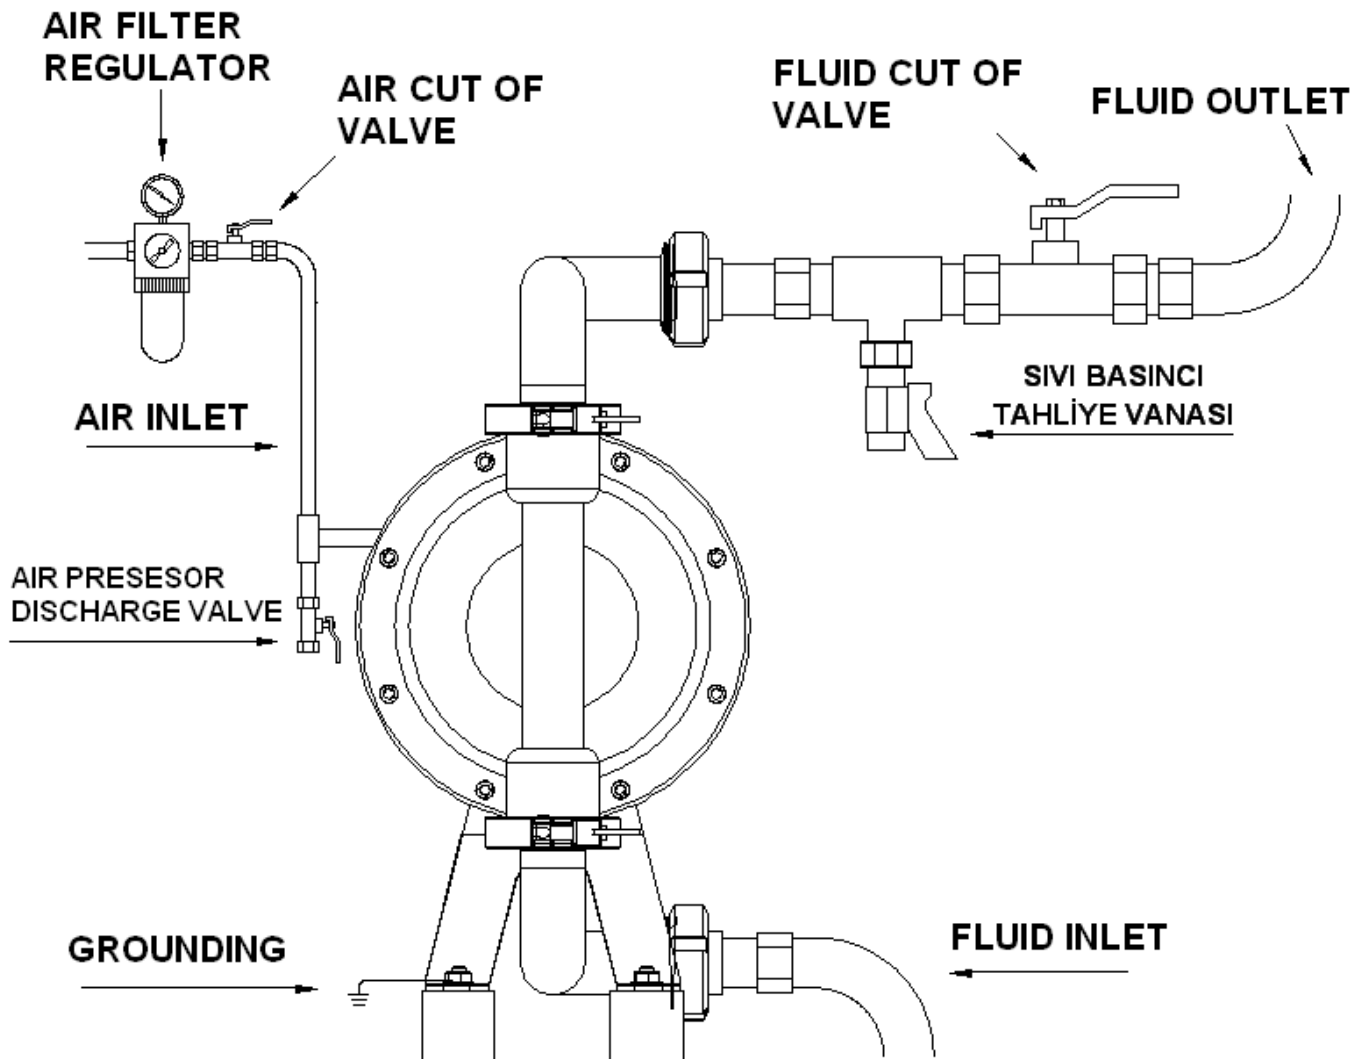

Figure 7- Typical installation scheme
A typical connection scheme of diaphragm pump is shown at Figure 7. Refer to your RAN™ Pump distributor for detailed information.
A bleed-type master air valve is required in your system to relieve air trapped between this valve and the pump. Trapped air can cause the pump to cycle unexpectedly, which could result in serious injury, including splashing in the eyes or on the skin, injury from moving parts, or contamination from hazardous fluids. See Fig. 7.
- 1-Refer to the Figure 7 for the connection scheme. Fix these accessories to the wall or to a bracket. The air line feeding the accessories must be grounded.
5.6.1 For the pump: Use a conductor (for grounding) with a cross-section of at least 1.5 mm² . Connect the conductor to the pump's leg as shown on Fig. 7, and the other end to the grounding line.